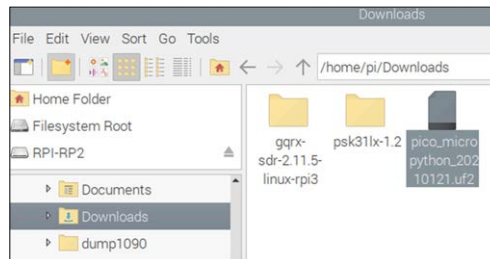

Figure 2.5: Locate the file with extension: ".uf2".
- Open the **Downloads** folder (under **/home/pi**) and locate the file with the extension: **.uf2**. This file will have a name similar to: **micropython-20-Jan-2021.uf2** (Figure 2.5)
- Drag and drop this file to Raspberry Pi Pico's removable drive which is named: **RPI-RP2** (at the top left side of the screen – see Figure 2.5).